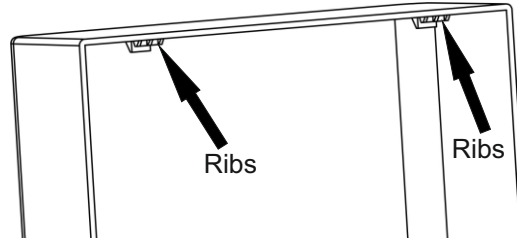

Fig. 5
1) Hold the cover at an angle as shown in Fig.8. Fit the ribs located inside the cover as shown in Fig. 5 in the corresponding notches in the back plate. Rest the edge of the cover on the stopper of the back plate as shown in Fig. 8.